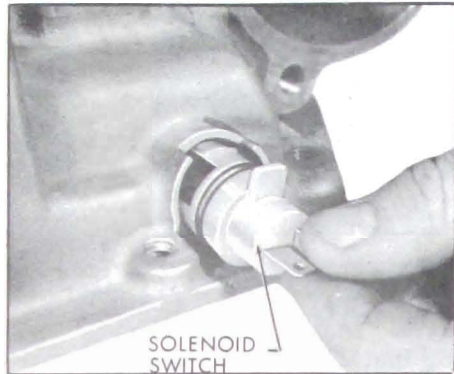

Figure 5-343
9. Install solenoid switch into case. See Figure 5-343.